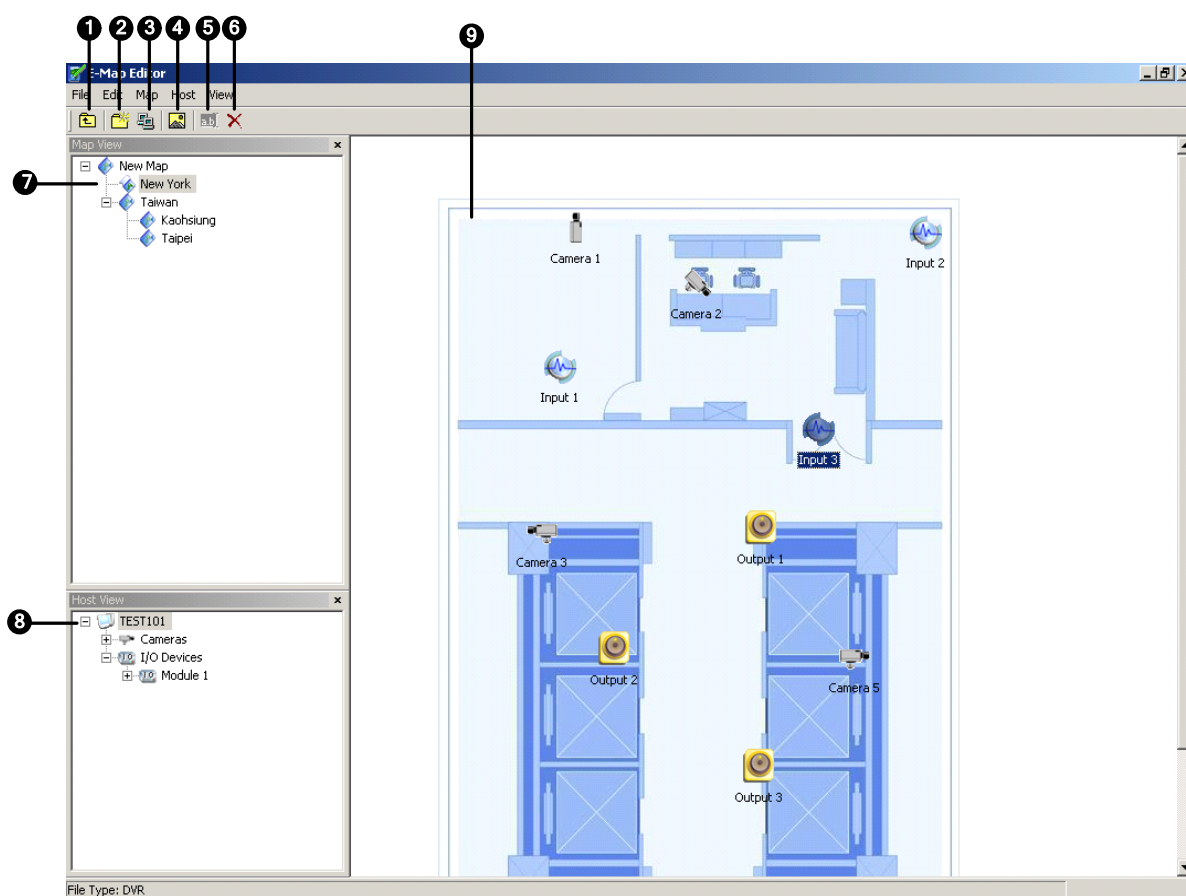

Figure 9-1 The E-Map Editor Window
1. Click the **Add Map** button (No.2, Figure 9-1) on the toolbar. A New Map file will be created in Map View and the Floor Plan window separately, as illustrated below.
2. Click the **New Map** file in Map View, and then click the **Load Map** button (No. 4, Figure 9-1) to import a graphic file. The file opens in the Floor Plan window (Figure 9-1).
1. Click the **Add Host** button (No. 3, Figure 9-1) on the toolbar, and select the type of host. A new host folder then is added in Host View.